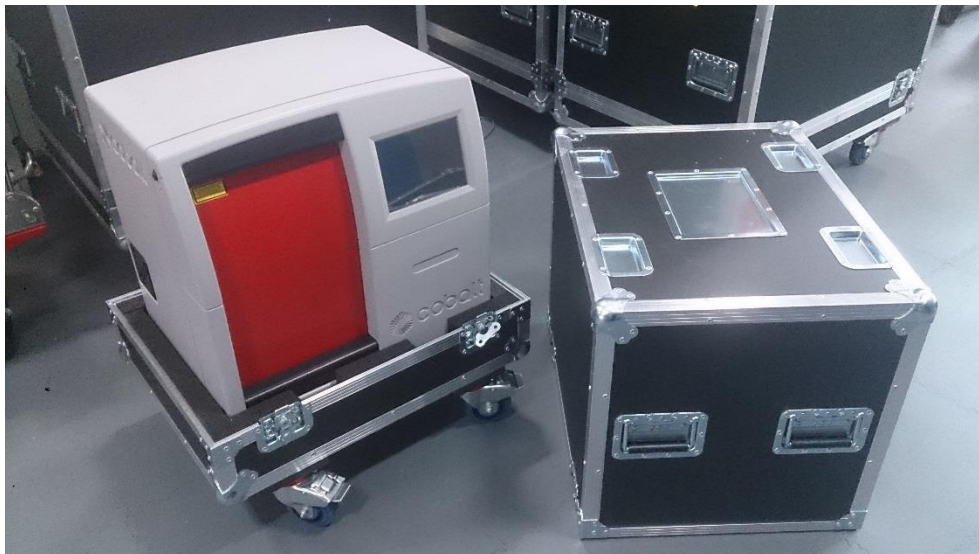

Figure 1 – Insight200M Shown in Flight Case Base with Lid to Side
- In some cases, where requested or for demonstration/loan systems the Insight200M may be transported in a flight case. The Flight case has dimensions approximately (mm 680w x 530d x 810h) and weighs approximately 60kg Figure 1 is an example of an Insight200M flight case. *Note that the colour of the flight case could change (e.g. red)*